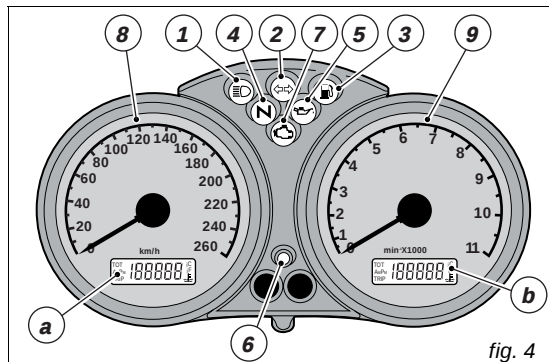

fig. 4
Instrument panel (fig. 4)
In case of faulty immobilizer system, the following procedure gives the chance to disable "engine block" function -immediately signalled by the orange EOBD warning light (7, fig. 4).
The EOBD warning light (7, fig. 4) turns off after 8 seconds.
- 4) 4) Count as many flashes of the EOBD pilot light (7, fig. 4) as the first digit of the electronic code.
- 1) if the CPU recognised the code, the light (6, fig. 4) on the instrument panel will flash briefly. This means that the immobilizer system has recognised the key code and enabled engine ignition. Press the START button (3, fig. 14.1), to start the engine;
- 2) if light (6, fig. 4) or EOBD light (7, fig. 4) stay on, it means that the code was not acknowledged. When this is the case, turn the ignition key back to OFF and then to ON again. If the engine still does not start, try with another black key.
- 3) Should the pilot light (6, fig. 4) still be flashing, it means that an immobilizer system fault was reset (e.g. with the overriding procedure through throttle grip). Turn the key to OFF and back to ON, the immobilizer pilot light should go back to its normal operation (see step 1).